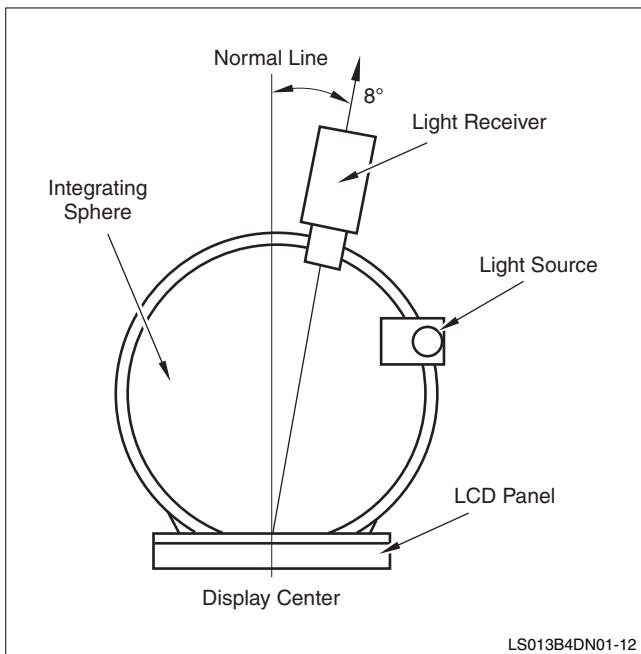

Figure 5. Setup for Contrast, Reflection Ratio, and Chromaticity
2. Contrast Ratio, Reflectivity Ratio, and Chromaticity are measured through the use of an integrating sphere. See Figure 5.